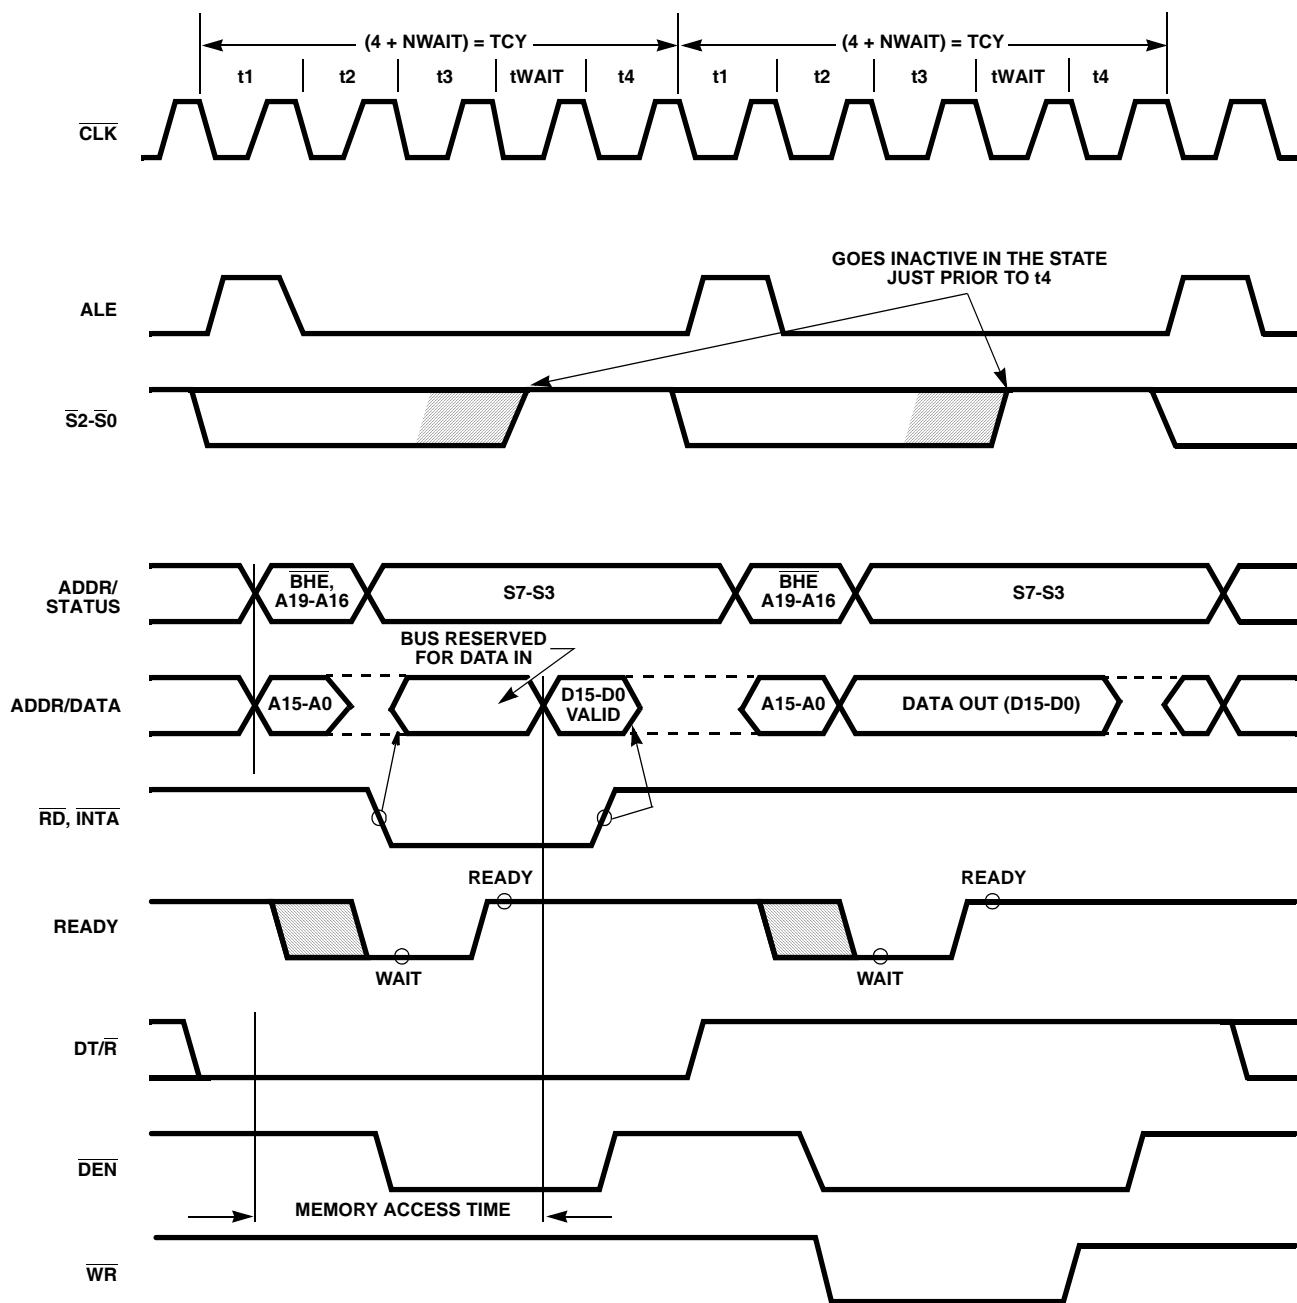
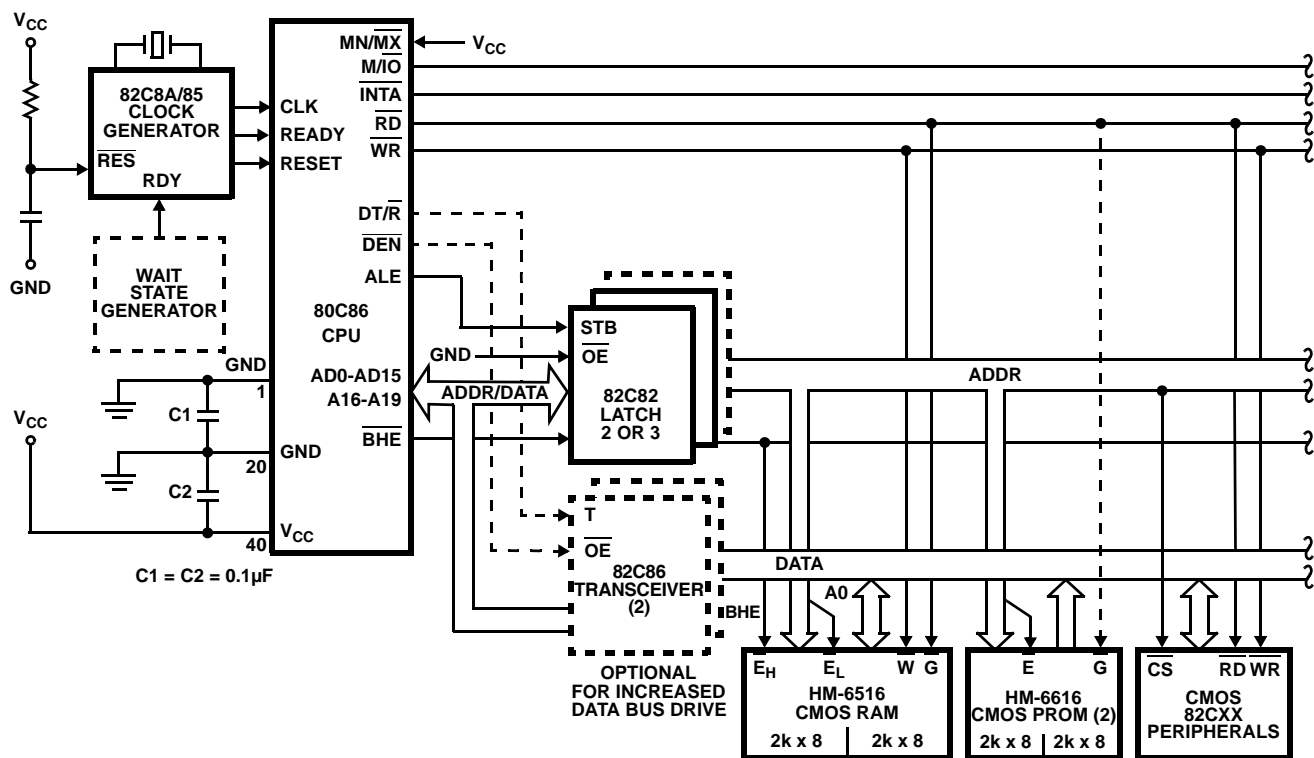

FIGURE 3. BASIC SYSTEM TIMING
FIGURE 6A. MINIMUM MODE 80C86 TYPICAL CONFIGURATION
The demultiplexed mode requires two 82C82 latches (for 64k addressability) or three 82C82 latches (for a full megabyte of addressing). An 82C86 or 82C87 transceiver can also be used if data bus buffering is required (see Figure 6A.) The 80C86 provides  $\overline{DEN}$  and DT/R to control the transceiver, and ALE to latch the addresses. This configuration of the minimum mode provides the standard demultiplexed bus structure with heavy bus buffering and relaxed bus timing requirements.
Each processor bus cycle consists of at least 4 CLK cycles. These are referred to as t1, t2, t3 and t4 (see Figure 3). The address is emitted from the processor during t1 and data transfer occurs on the bus during t3 and t4. t2 is used primarily for changing the direction of the bus during read operations. In the event that a "NOT READY" indication is given by the addressed device, "Wait" states (tW) are inserted between t3 and t4. Each inserted wait state is the same duration as a CLK cycle. Periods can occur between 80C86 driven bus cycles. These are referred to as idle" states (TI) or inactive CLK cycles. The processor uses these cycles for internal housekeeping and processing.
Typical system configurations for the processor operating in minimum mode and in maximum mode are shown in Figures 6A and 6B, respectively. In minimum mode, the MN/MX pin is strapped to VCC and the processor emits bus control signals (e.g. RD, WR, etc.) directly. In maximum mode, the MN/MX pin is strapped to GND and the processor emits coded status information which the 82C88 bus controller uses to generate MULTIBUS compatible bus control signals. Figure 3 shows the signal timing relationships.